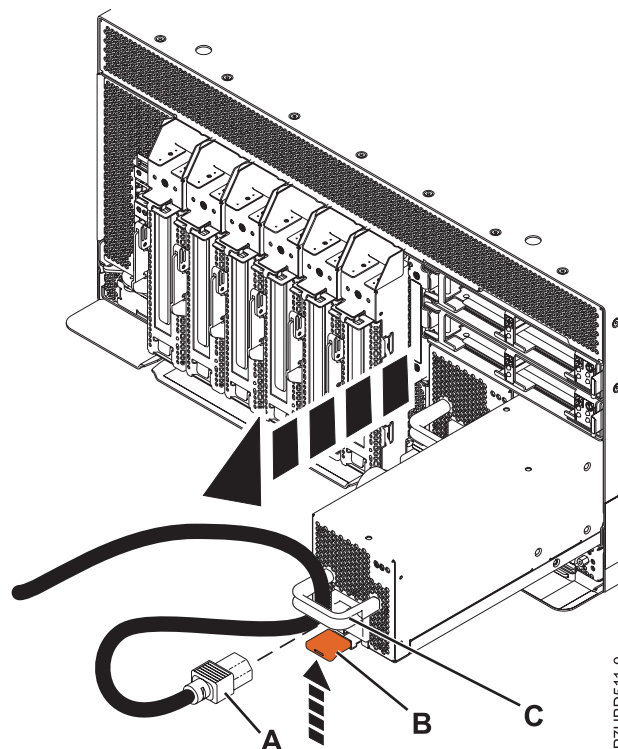

Figure 2. Removing the power supply
7. Lift the tab (B) toward the power cord retainer (C) to release the power supply.
8. Pull the power supply away from the system, as shown in Figure 2 on page 3.